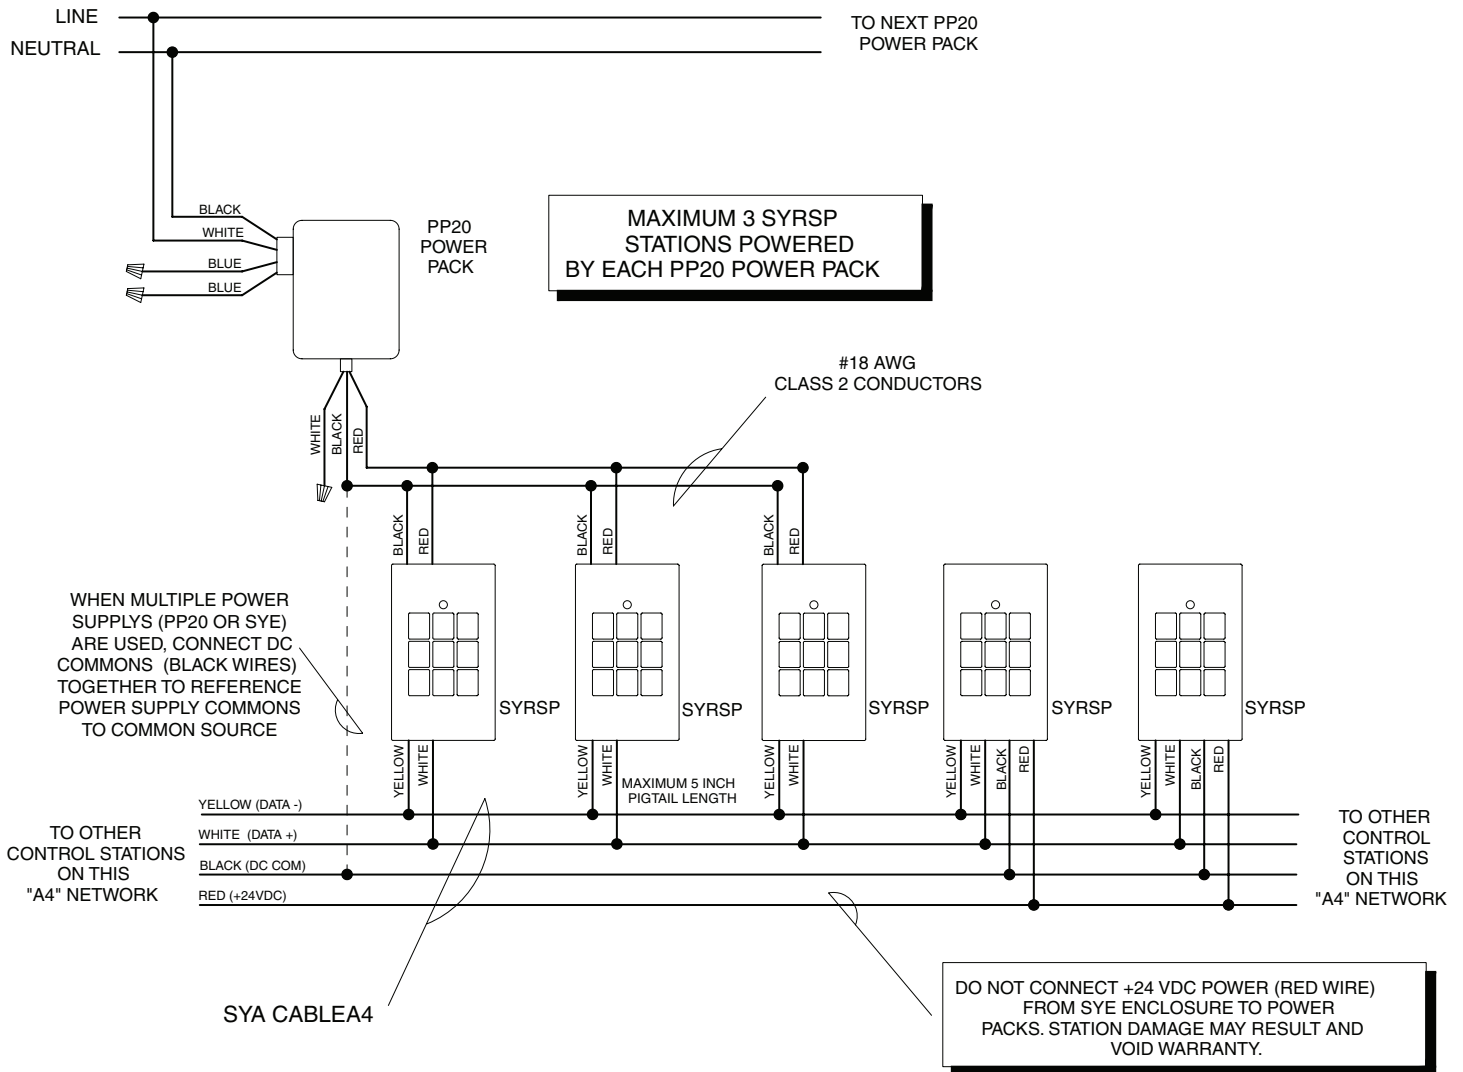

**Figure 5 - SYRSP Remote Station Network - Typical Wiring
SYRSP stations can be powered from the Synergy SYE enclosure power supply or a remote power pack. The Synergy MLX system controller supports a maximum of 60 A4 network devices. A single SYE enclosure power supply can power a maximum of 20 SYRSP stations. A single power pack can power a maximum of 3 stations. See *Figures 5 and 6* for appropriate details. If the A4 network requires more than 20 SYRS stations, consult factory for guidelines. If a power supply is powering other network devices in addition to the SYRSP stations, consult factory for guidelines. Power Packs that supply 15 - 24Vdc are acceptable.
2. Connect A4 network wiring as shown in *Figures 5 or 6*.
If SYRSP stations are located at both ends of the network, BOTH SYRSP stations must be terminated and the factory applied A4 network termination on the SYSC system controller **must** be removed. (See the SYSC system controller jumper settings in *Figure 5* to remove termination from the controller)